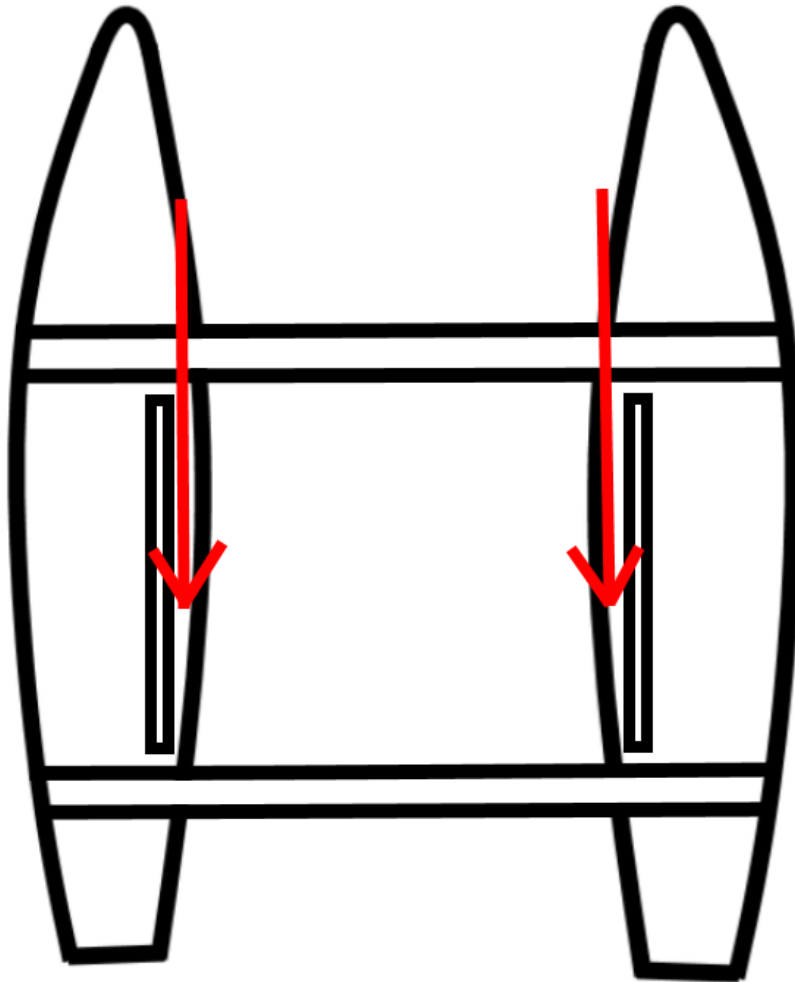

FIGURE 2: Slide outer portion of trampoline halves into boltrope tracks on hulls from fore to aft.
Step 3: Feed outside edge of both trampoline halves into boltrope tracks on the inboard side of each hull's deck. See **Figure 2**.